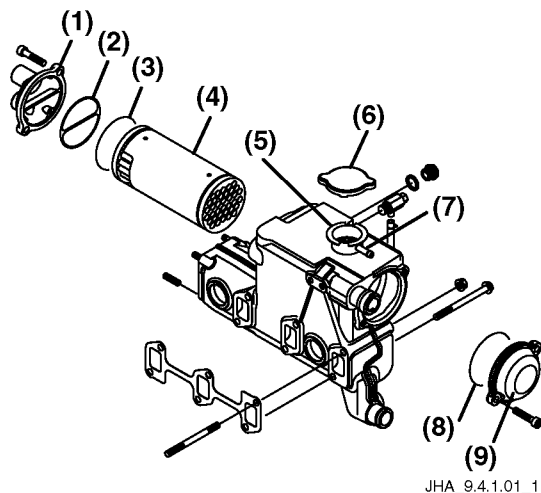

Figure 7-8
The heat exchanger uses seawater to cool the engine's internal coolant system. The core (**Figure 7-8, (4)**) of the heat exchanger consists of many small diameter tubes held together by baffle plates. Seawater flows through the inside of the tubes, and the baffle plates allow the engine's internal coolant mixture to flow around and between the tubes, transferring the engine heat to the flowing seawater within the tubes.
1. Remove the covers (**Figure 7-8, (1) and (9)**) on both ends of the heat exchanger and take out the cooler core (**Figure 7-8, (4)**) and O-rings (**Figure 7-8, (3) and (8)**).
2. Remove the pressure cap (**Figure 7-8, (6)**).